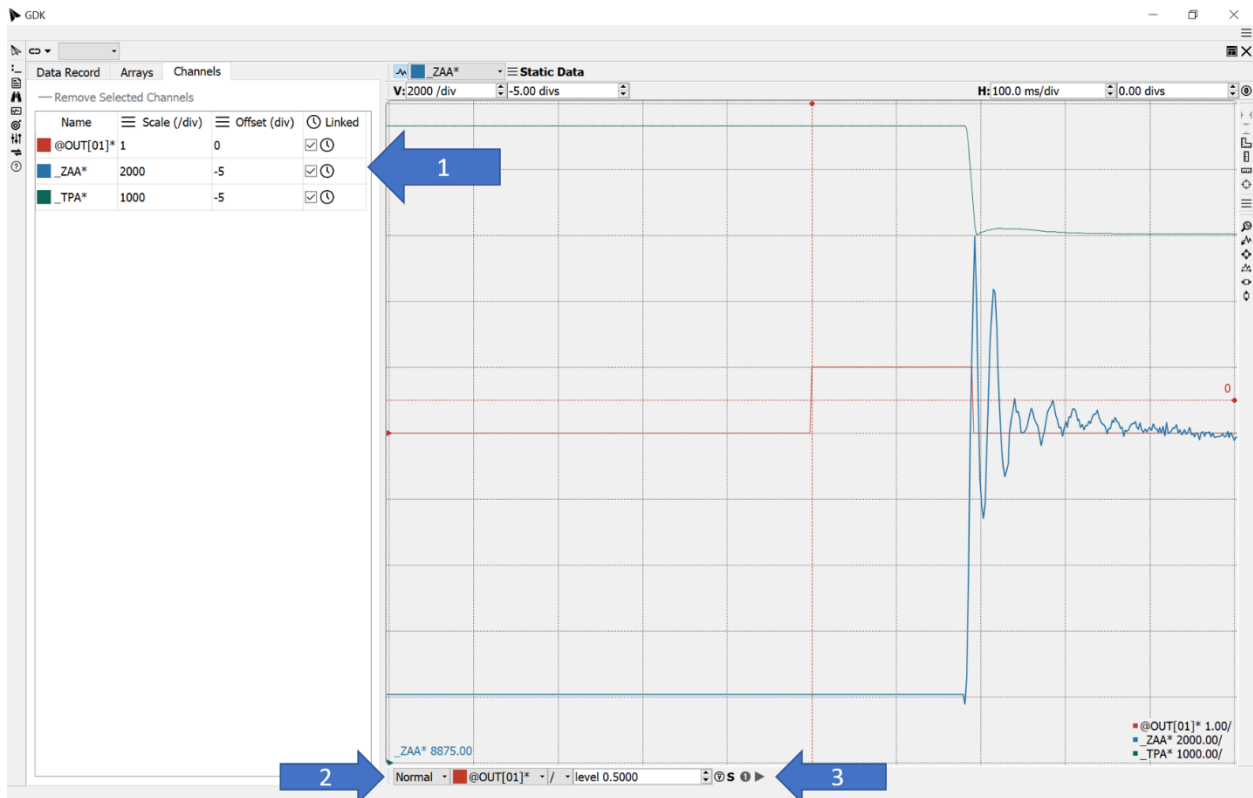

Figure 36. Scale and Offset Data (1). Adjust Trigger State (2). Click Play to arm the scope (3)
13.) Select Channels and adjust the Scale and Offset as shown in Figure 36 (below). Adjust the scope trigger settings to trigger normally on @OUT[1] on a rising edge at a level of 0.5 as shown in Figure 36 (below). Clicking the Run/Stop button should now change the trigger state from S (stopped) to A (armed).